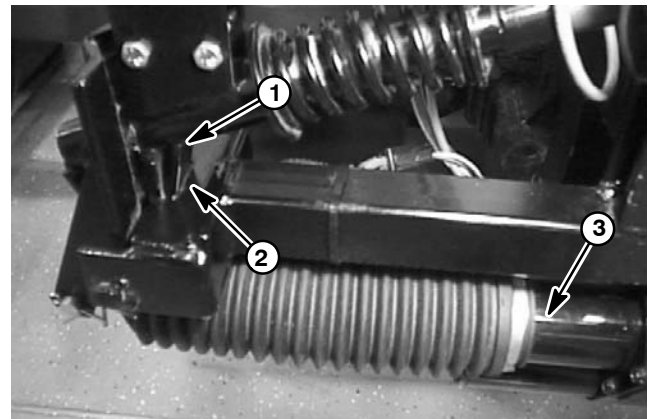

Figure 52
3. With the boom actuator at full extension, the breakaway pivot gusset should just touch the center boom frame slot (Fig. 52).